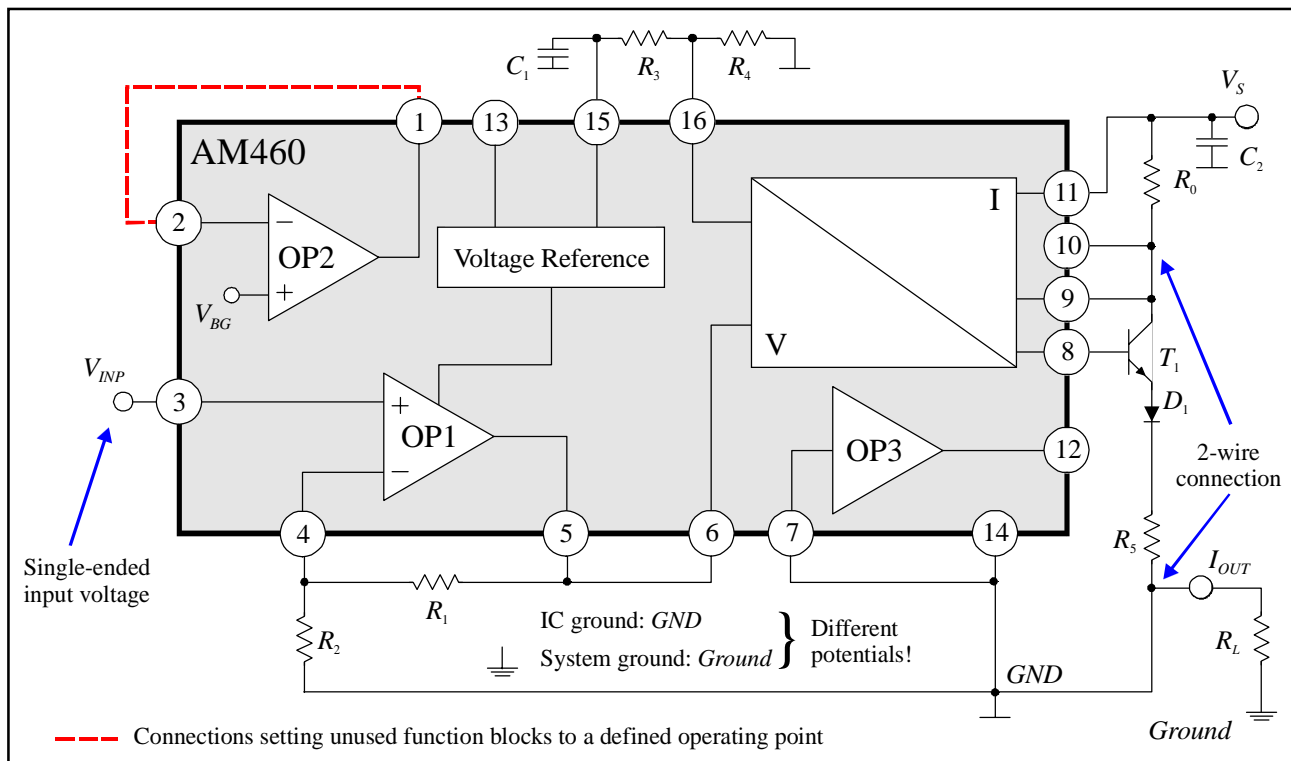

Figure 8: Typical 2-wire application for input signals referenced to ground
1. When using AM460 it is imperative that external capacitor  $C_1$  (a top-grade ceramic capacitor) is **always** connected (cf. Figure 2). Care must be taken that the value of the capacitor, also within the temperature range, does not exceed the range of values given in the boundary conditions on page 6. In 2-wire operation ceramic capacitor  $C_2$  must also be used (cf. Figure 8)
In 2-wire operation (cf. Figure 8) system supply voltage  $V_S$  is connected up to pin  $RS+$  and pin  $VCC$  to pin  $RS-$ . The ground of the IC (pin  $GND$ ) is connected to the node between resistor  $R_5$  and load resistor  $R_L$  (current output  $I_{OUT}$ ). IC ground ( $GND$ ) is **not** the same as system ground ( $Ground$ )!! The output signal is picked up via load resistor  $R_L$  which connects current output  $I_{OUT}$  to the system ground.